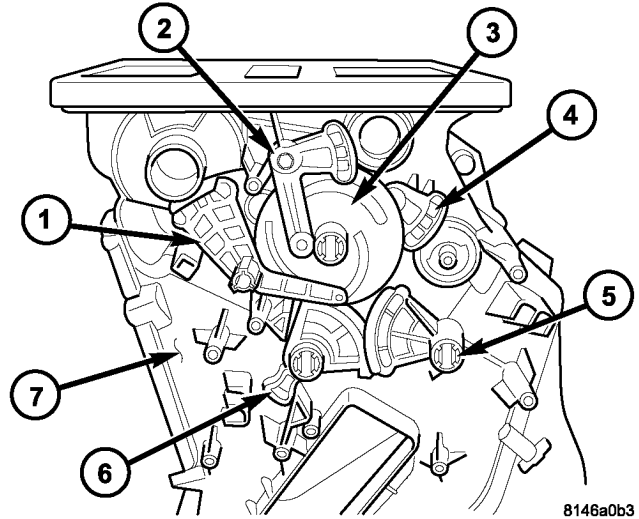

Fig. 20 Air Door Linkage
- 1 - SCREWS (6)
(4) Remove the defrost door linkage arm, instrument panel door linkage arm, mode door cam, floor door gear, driver side blend door gear and the passenger side blend door stop from the driver side of the air distribution housing (Fig. 20).